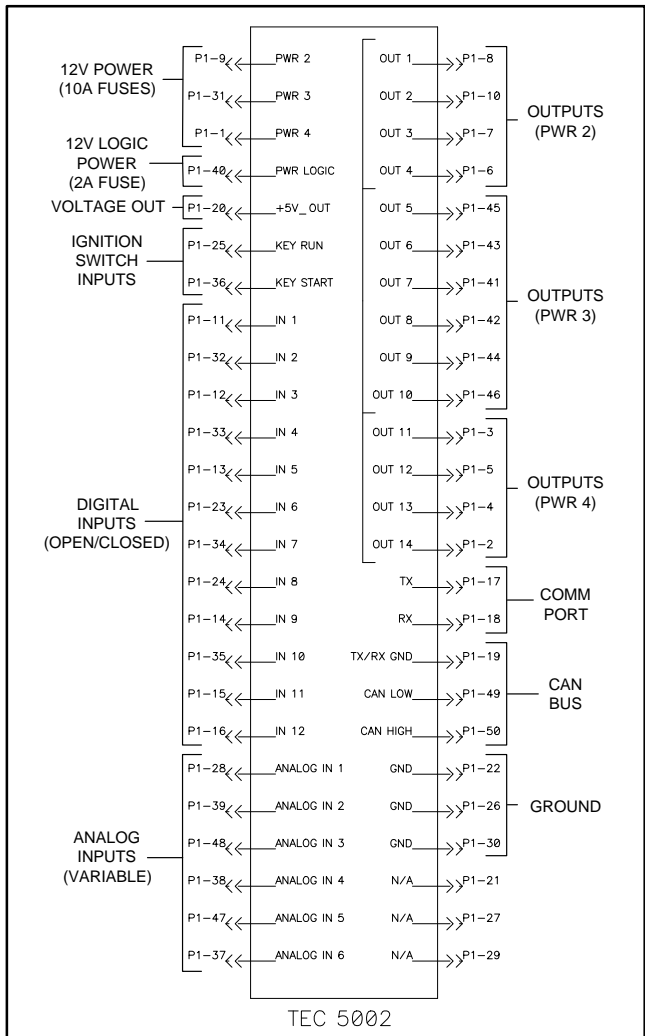
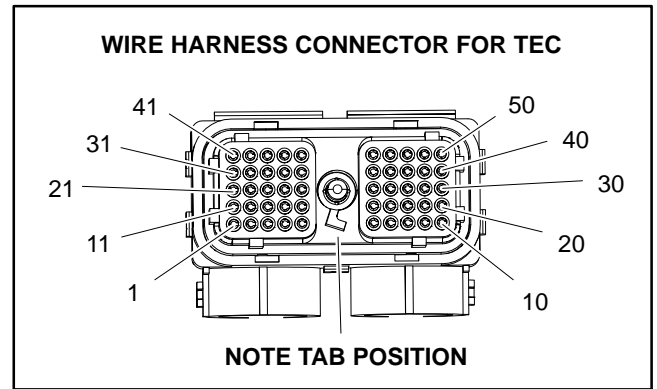

Figure 21
Figure 22
The connection terminal functions for the TEC are shown (Fig. 21). The Electrical power for controller outputs is provided through three (3) connector terminals (PWR 2, PWR 3 and PWR 4) each protected with a 10 amp fuse. A fifty (50) pin wire harness connector attaches to the controller. The layout of the wire harness connector that plugs into the TEC is shown (Fig. 22).